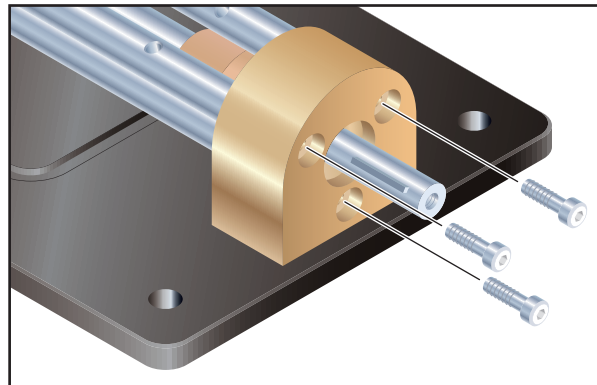

Figure 5
- 8 Turn the comparator back over, and then use a 5mm Allen key to remove the three (3) cap screws from the front of the Bearing Block (**figure 5**).